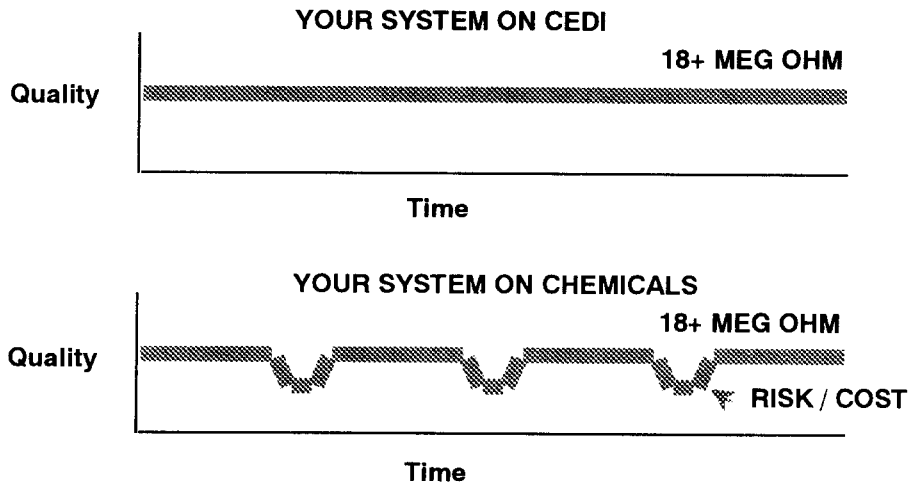

Figure 7 UPW OPERATING CYCLE
- Operation Cycle for CEDI shows stable and reliable water quality as shown in Figure 7.